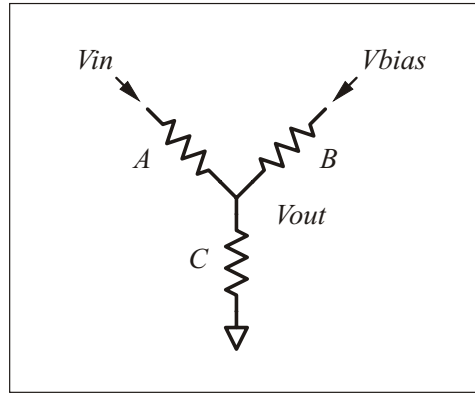

Figure 8: Y connection
Assuming no external loading at V_{out} , this equation specifies the sum of the currents is conserved. The current flowing into the node is matched by that flowing out. Of course with algebra equation (15) can be derived from equation (12), but starting from first principles is more direct. Sometimes this circuit is redrawn and referred to as a Y connection for three resistors as in Figure 8.